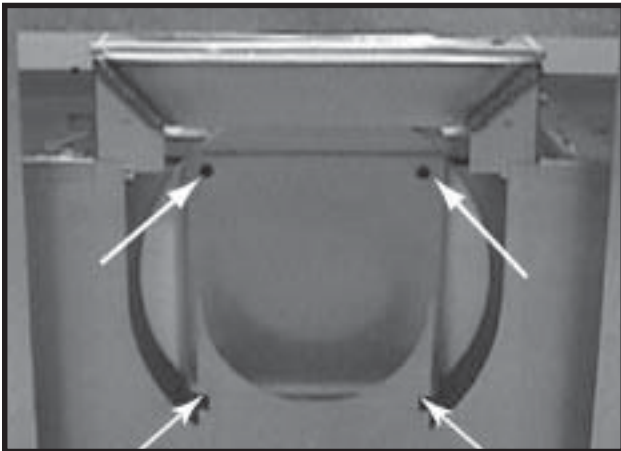

Figure 12 - Remove Inner Cover Plate
- h. Remove the four screws holding the inner cover plate to the appliance back. See Figure 12. Remove the inner cover.